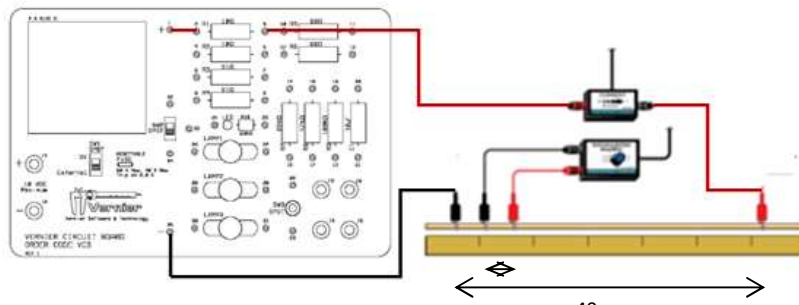

Figure 2
4. Connect the batteries (power supply), 10Ω resistor, wires, rod, current probe and Instrumentation amplifier as shown in Figure 2. The leads from the current probe and from the circuit board should be close to the ends of the rod.
1. Take one rod of brass and connect the circuit as you did in the previous procedure (Figure 2).
5. Calculate the resistance (R) and its error ΔR from the voltage and the current. For the error, use equation Eq.7 from the Guide to estimating uncertainty, $\frac{\Delta R}{R} = \sqrt{\left(\frac{\Delta I}{I}\right)^2 + \left(\frac{\Delta V}{V}\right)^2}$
1. Take the stainless steel rod and connect the circuit as you did in the previous procedures (follow Figure 2).